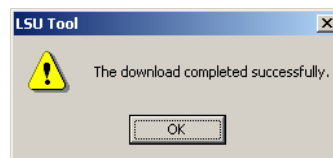

Figure 237: Successful Firmware Upgrade.
3. If the upgrade is successful, the following window appears (Figure 237).